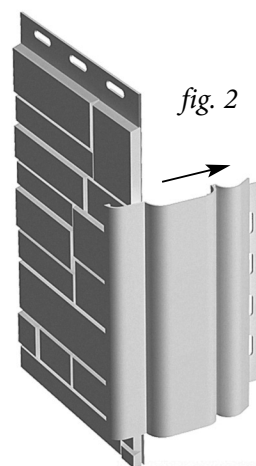

fig. 2
3) Any of the weather strips can be installed without jamb. Where the door or window niches have a wide part - more than 20 cm, so installation of an universal jamb is excluded, because its width is not enough to cover the surface. In this case for surface finishing is used niche a façade panel, which is adjusted to the desired size. Securing the panel on the surface, from one edge of the panel are made special grooves-sawcuts, using grinder with cutting disc with thickness of 2.5 mm. Further, weather strip is engaged for these sawcuts, which on one side has a special projection to secure the panel. The other side of weather strip is connected to the panel (Fig. 2).